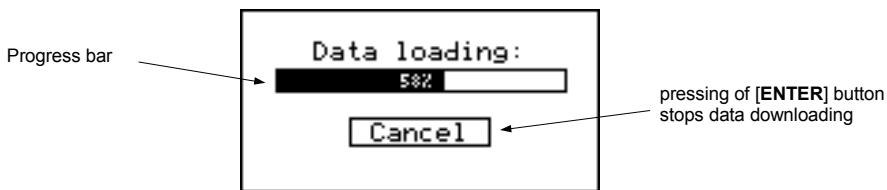
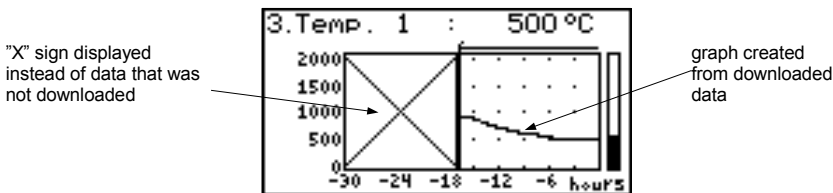

Fig. 6.19. Message displayed when loading data to be displayed on the graph
Fig. 6.20. Display in "Graph" mode in the case where data download was stopped.
**i** If downloading the data (recorded measurement results) necessary for displaying the graph takes more than 1 second an appropriate message is displayed (Fig. 6.19). Pressing **[ENTER]** will stop the data downloading process and display a graph made on the basis of the data downloaded so far. "X" will be displayed instead of data that was not downloaded (Fig. 6.20).